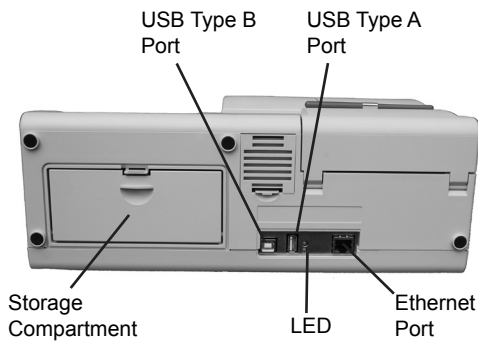

Fig. 1-9 Back of the OPTI CCA-TS2
On the rear of the unit is (Fig. 1-9):
- A **storage compartment** that can hold an extra paper roll, the SRC, other supplies or accessories (Fig. 1-9).